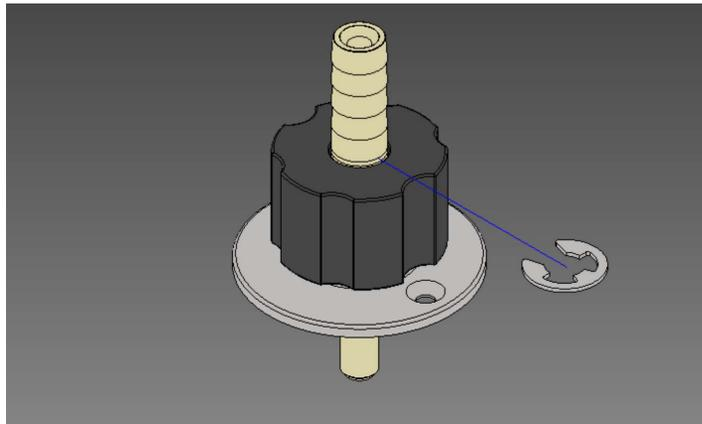

FIGURE F. 5. – EXTERNAL E-CLIP REMOVAL
5. Remove external E-Clip (see Figure F.5.)